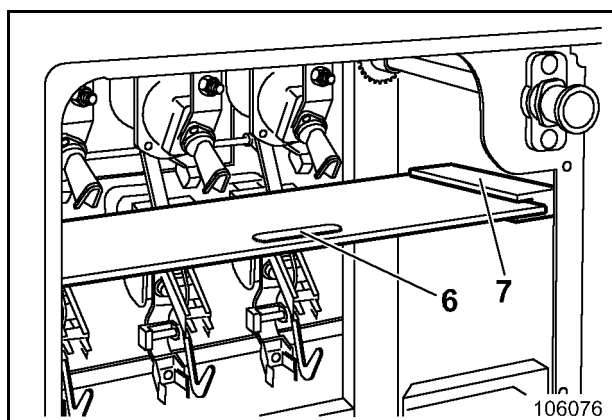

Fig. 3-3:
- Slide partition (6, Fig. 3-3:) into guide (7).